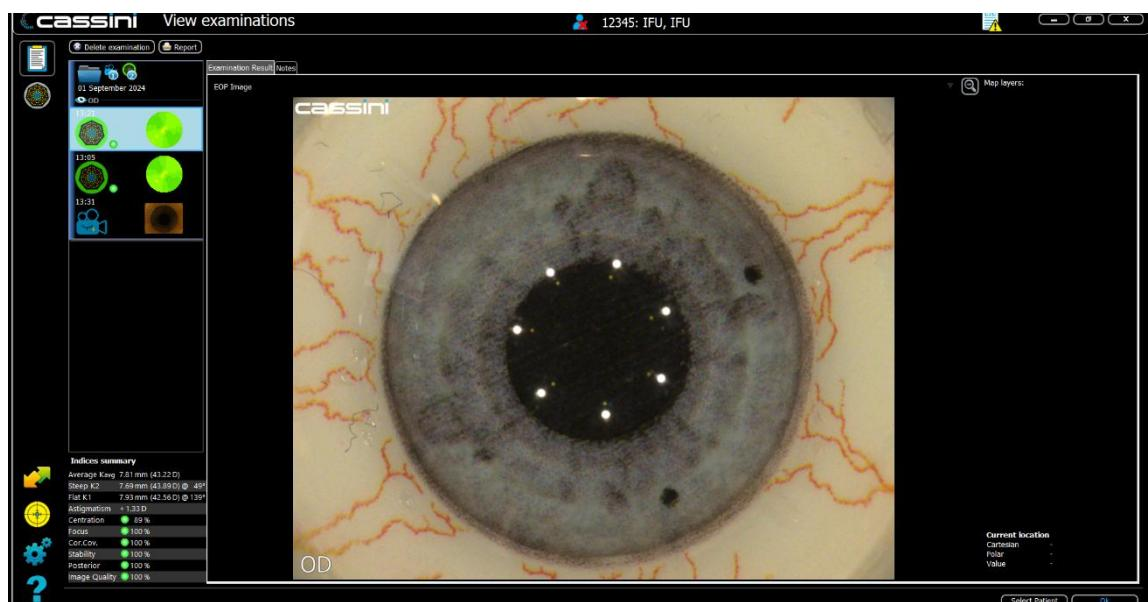

Figure 31: Result SMART EOP
1. Align Cassini in front of the eye and ask the patient to look at the red fixation target. The alignment is correct if the setup is as per Figure 31.